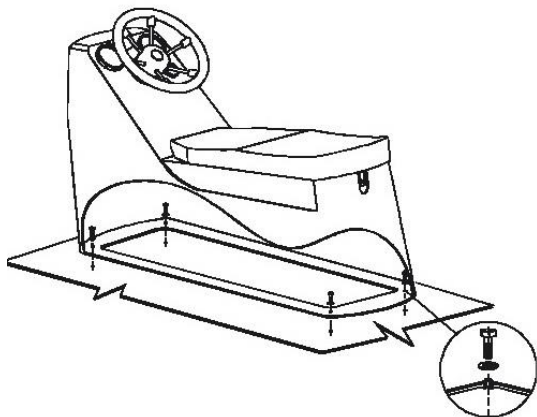

Fig. 7. Installation of steering console CS-01.
- Fix steering console to the deck by means of bolts M8*30 and toothed lock washer (fig. 7).